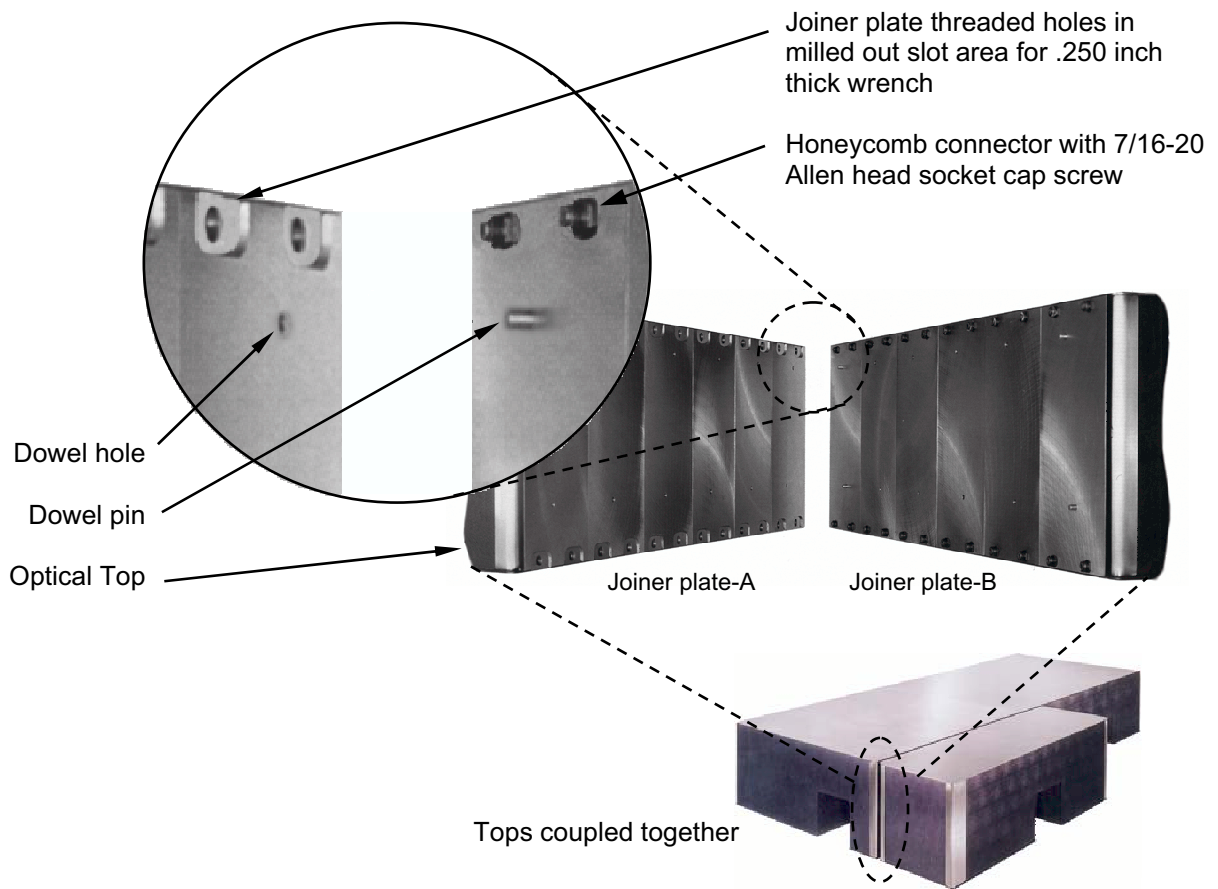

Figure 4 Attaching Joiner plates together
- Step 10** Place the second top on the adjustable support stands or jacks and align the dowels with the dowel holes in the face of the joiner plates such that when appropriate pressure is exerted to the second top towards the “reference” top, the dowel pins will easily mate with the female dowel holes referenced in figure 4 insert below.
The dowel pins and holes referenced in figure 4 insert will mate as tops come together.